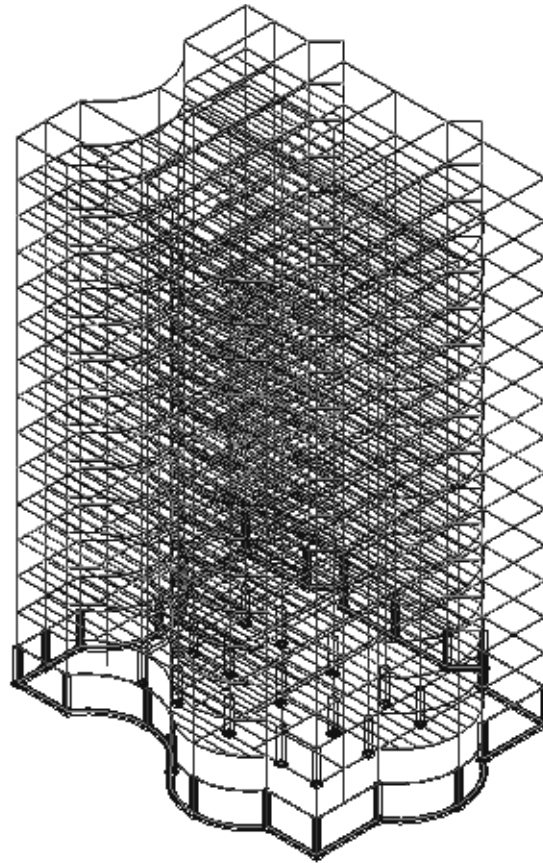

Figure 7–20
15. Open a 3D view to see the full model, as shown in Figure 7–20.
3. Select the beam between **Grid B1** and **Grid C1**, as shown in Figure 7–21.